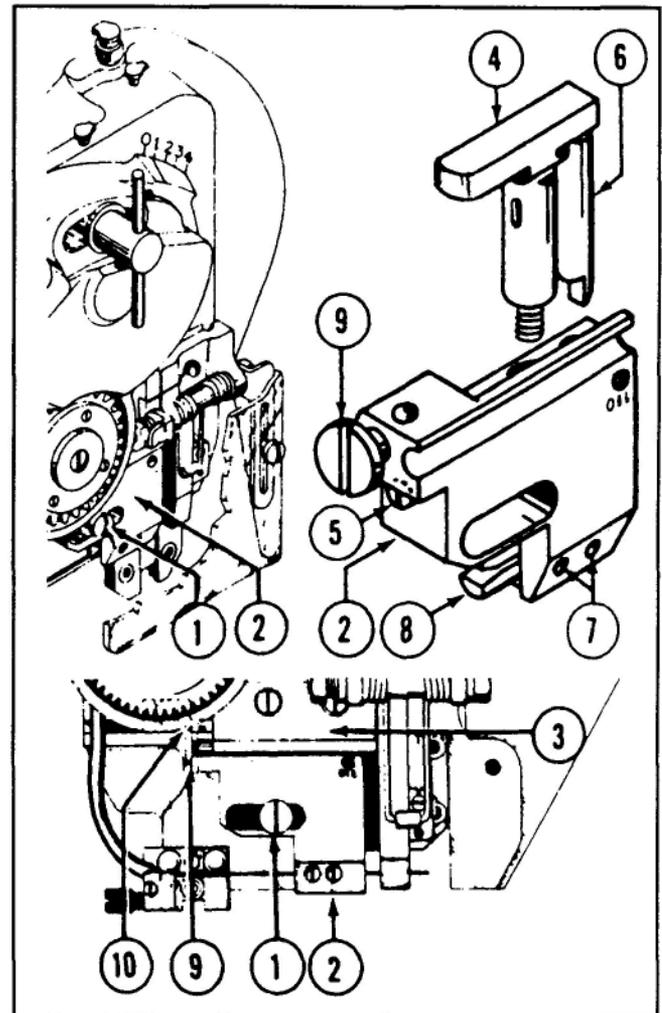

Figure 18 — Removing and Replacing Removable Cutter
d. MOVABLE CUTTER (See Fig. 18)—The cutting edge of the movable cutter should be periodically checked for sharpness. A dull cutter can be resharpened but eventually must be replaced.